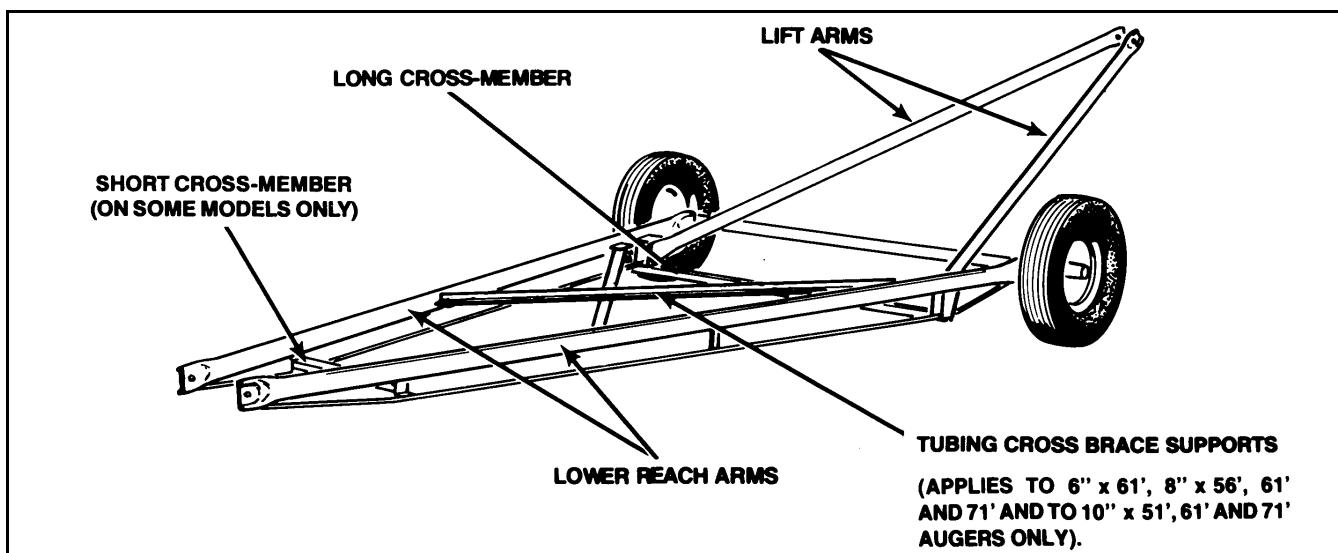

Figure 3.16
2. Attach long cross-member to bottom of undercarriage brackets as shown in Figure 3.16, with two 7/16" x 1" bolts and locknuts.